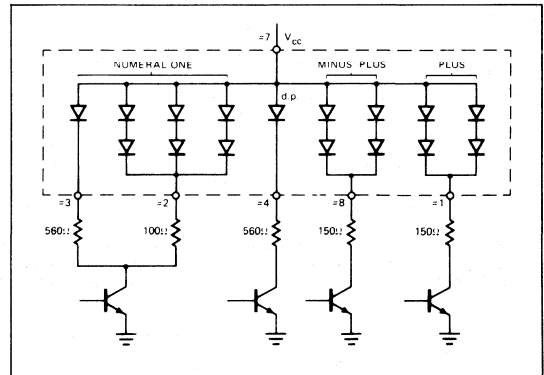

Figure 7. Typical Driving Circuit for 5082-7304
**NOTES:** L: Line switching transistor in Figure 7 cutoff.
H: Line switching transistor in Figure 7 saturated.
LED current must be externally limited. Refer to Figure 7 for recommended resistor values.